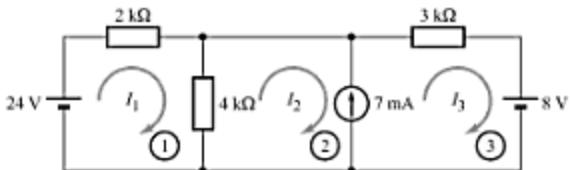

Fig. A-118
- A-85. Determine the mesh currents in the circuit of Fig. A-118.